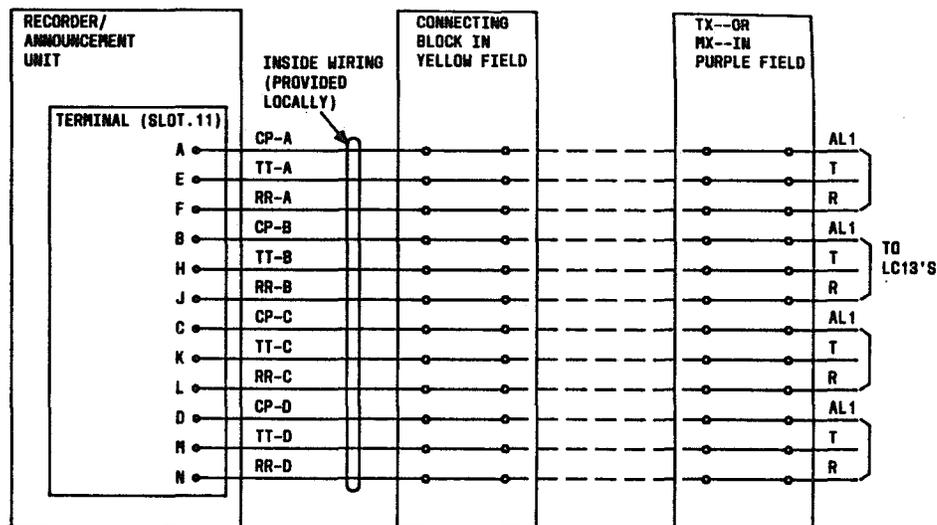

Fig. 3 - HQD 614 Cross Connections
3.3 Use the Trunk Carrier X-Conn section of the Customer Order Document to locate the conn blk in x-conn field used for the Audichron interface (Audichron uses trunk type 49). Make the cross-connects shown in Fig. 3. Refer to cross-connect tables for the Trunk Port carrier and Module Control and Trunk Port carrier in section 250.23 of this handbook for LC13B connections.